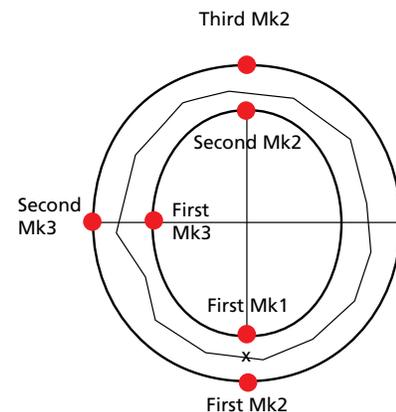

Figure 3-26
1. At the bottom middle of the inside circle of the letter o enter the first Mk1 (see Figure 3-26).
2. Now enter the first Mk2 directly below, at the bottom middle of the outside circle of the letter (see Figure 3-26).
3. Enter your first Mk3 (for defining the curvature of the inside line of the left arc) directly on the line of the inside circle exactly half way around to the top of the letter (see Figure 3-26).
4. Enter the second Mk3 (for defining the curvature of the outside line of the left arc) directly on the line of the outside circle exactly half way around to the top of the letter (see Figure 3-26).
5. Enter the second Mk2 to define the end of the inside of the column directly at top of the inside circle of the letter (see Figure 3-26).
6. Enter the third Mk2 to define the end of the outside of the column directly at the top of the outside circle of the letter (see Figure 3-26).